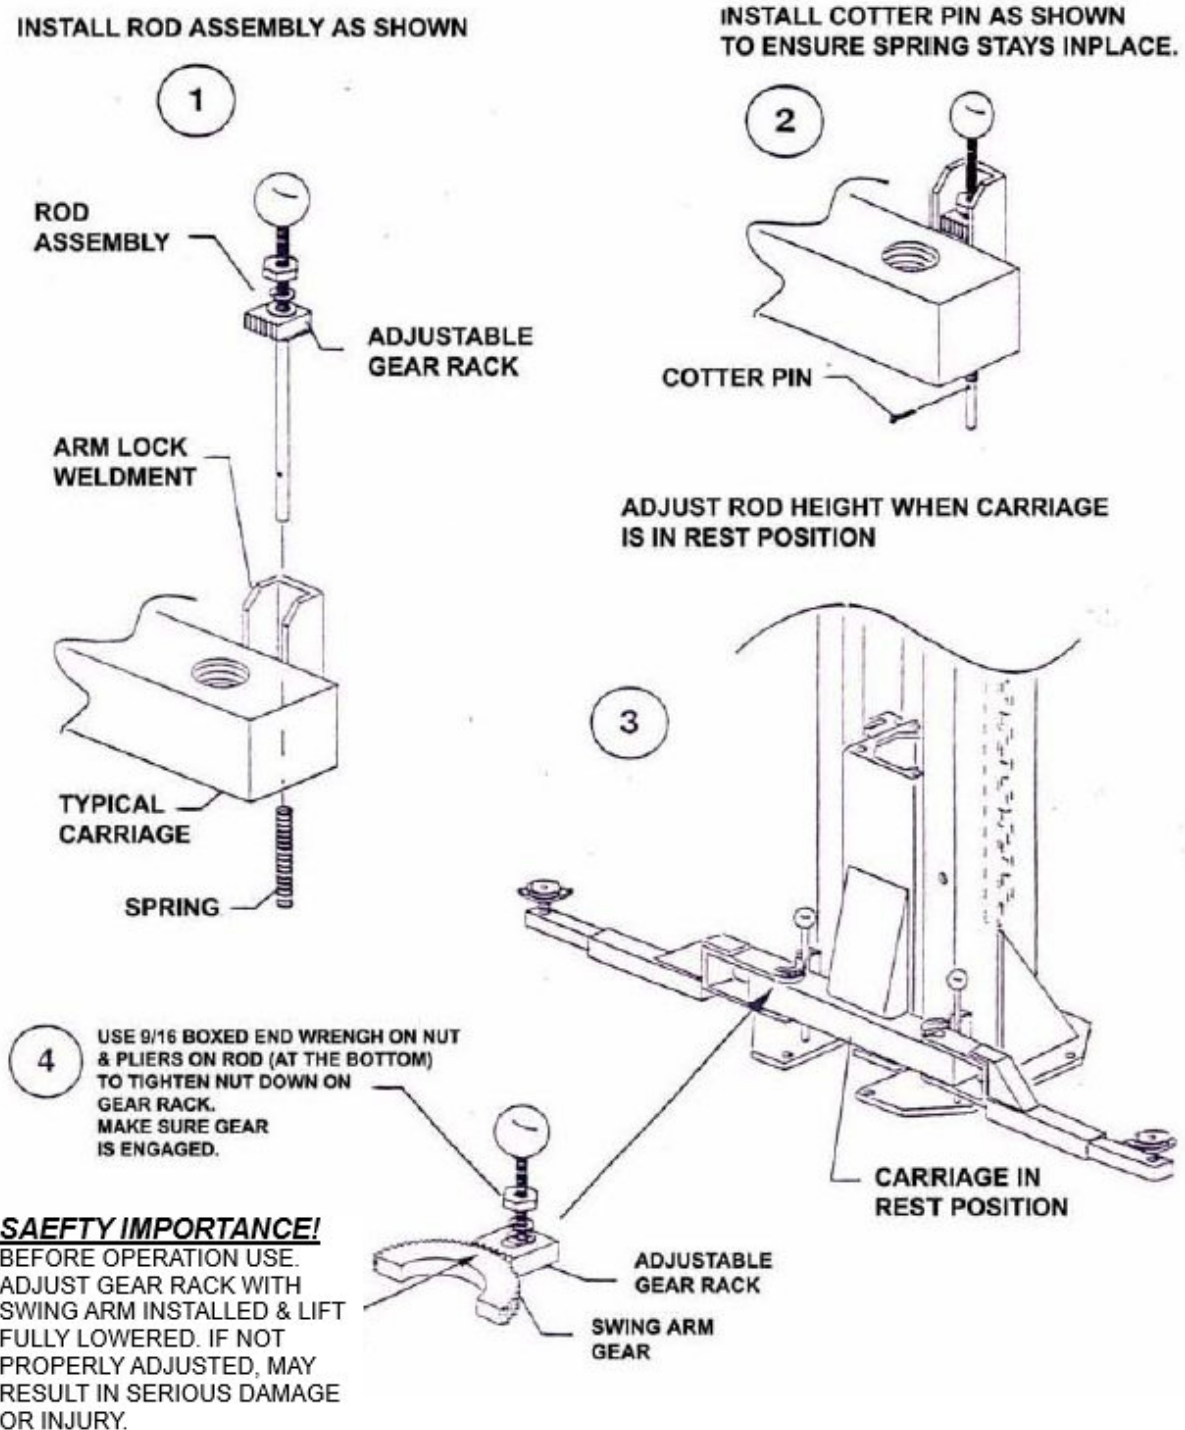

Fig. 13
2. Install arm restraint mechanisms to each swing arm, as shown below in **(Fig. 13)**.